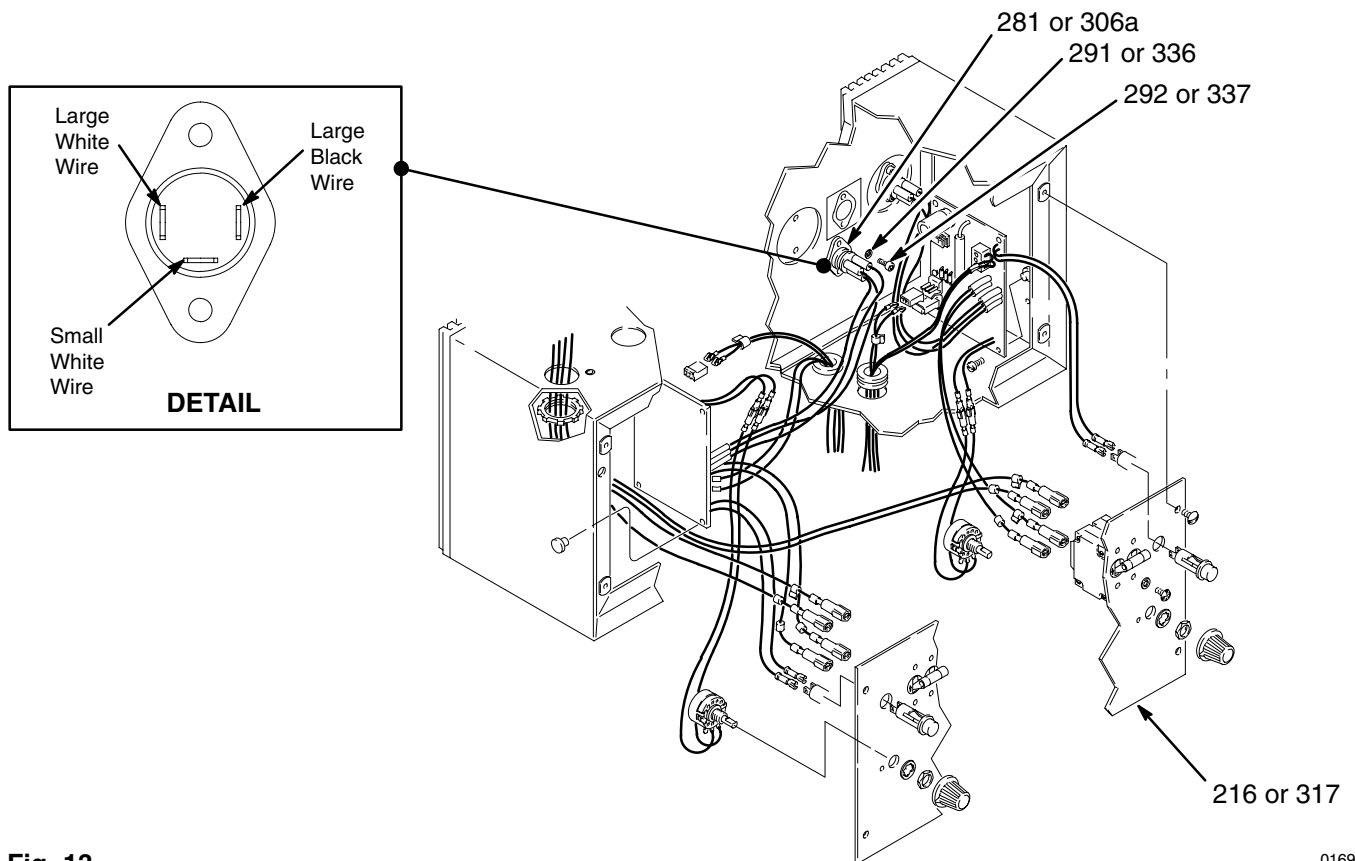

Fig. 13
2. Remove the heater control panel (216). See Fig. 13, page 25.
3. To check continuity at the thermostat, remove the front heater element shroud (238). Check for continuity across the terminals at each switch, with one lead disconnected and after pushing the reset button. See Fig. 13, page 25.
2. Remove the heated hose control panel (317). See Fig. 13, page 25.
2. Grasp the connector of each triac lead and unplug them from the triac (281). See Fig. 13, page 25.
4. Apply conductive paste (order Graco P/N 110009) to the bottom flange of the new triac. Position the triac as shown in Fig. 13.
5. Reconnect the leads firmly to the triac. See the DETAIL in Fig. 13.